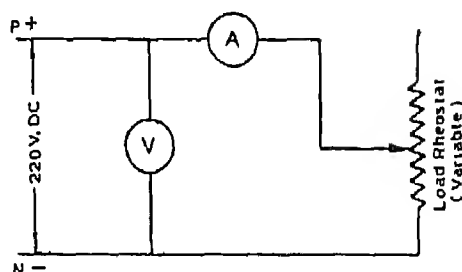

Fig 9.1 Constant Voltage with Load Resistance
- (i) Connect voltmeter, ammeter and load rheostat as shown in the Fig. 9.1; Check the connections. Keep the resistance at maximum value. This is **VERY IMPORTANT**.